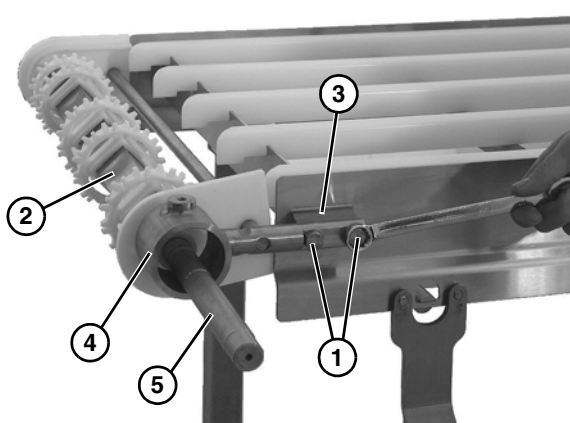

Figure 58
- Remove two bolts (Figure 58, item 1) on each side, and slide the drive tail assembly (Figure 58, item 2) off the mounting posts (Figure 58, item 3).
- Slide the motor support bracket (Figure 58, item 4) off the drive spindle shaft (Figure 58, item 5).